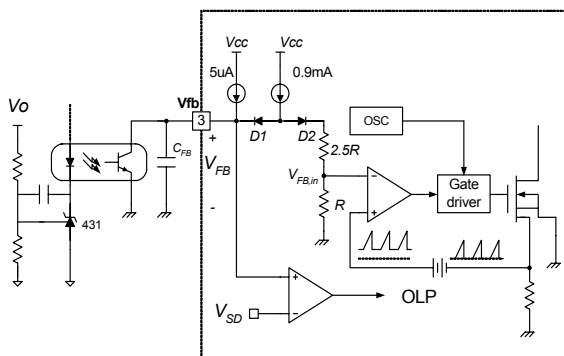

Figure 5. Pulse Width Modulation (PWM) Circuit
2. Feedback Control : The FSDx0365RN employs current mode control, as shown in Figure 5. An opto-coupler (such as the H11A817A) and shunt regulator (such as the KA431) are typically used to implement the feedback network. Comparing the feedback voltage with the voltage across the Rsense resistor plus an offset voltage makes it possible to control the switching duty cycle. When the KA431 reference pin voltage exceeds the internal reference voltage of 2.5V, the optocoupler LED current increases, the feedback voltage Vfb is pulled down and it reduces the duty cycle. This event typically happens when the input voltage is increased or the output load is decreased.
4.4 Over Voltage Protection (OVP) : In the event of a malfunction in the secondary side feedback circuit, or an open feedback loop caused by a soldering defect, the current through the opto-coupler transistor becomes almost zero (refer to Figure 5). Then, V_FB climbs up in a similar manner to the over load situation, forcing the preset maximum current to be supplied to the SMPS until the over load protection is activated. Because excess energy is provided to the output, the output voltage may exceed the rated voltage before the over load protection is activated, resulting in the breakdown of the devices in the secondary side. In order to prevent this situation, an over voltage protection (OVP) circuit is employed. In general, V_{CC} is proportional to the output voltage and the FPS uses V_{CC} instead of directly monitoring the output voltage. If V_{CC} exceeds 19V, OVP circuit is activated resulting in termination of the switching operation. In order to avoid undesired activation of OVP during normal operation, V_{CC} should be properly designed to be below 19V.